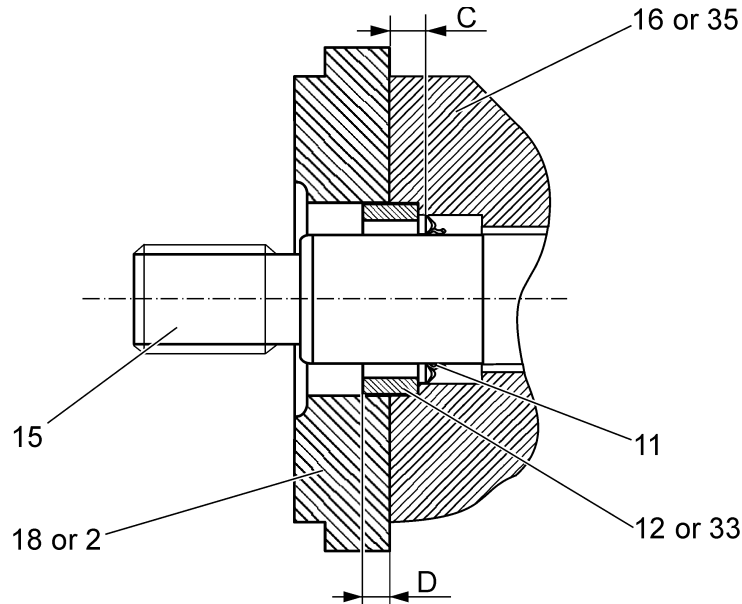

Fig. 7C.88. Assembly Dimensions of Seal Rings and Retainer Spacers
12. Fit front drive gear (15) first, ensuring correct orientation. Lightly lubricate gear flanks, faces and journals prior to assembly.
13. Fit front driven gear (6) in position in accordance with previous match marking, ensuring that both gears (6 and 15), once assembled, are level to each other. If not, remove both gears and check whether wear plate (5) is seating correctly then re-fit gears (6 and 15).
14. When both gears have been installed, fit the second wear plate (7), type F, assembled according to Step 2 in this Paragraph. The second wear plate (7) must be installed over gears (6 and 15) so that the back up ring (9) is face up and again with the high pressure side (H) adjacent to the outlet port, and with the relief slot in line with the first wear plate (5). When assembled with gears (6 and 15) in position, the relief slot marker (A) on both wear plates (5 and 7) should be in line with each other, refer to Fig. 7C.85.